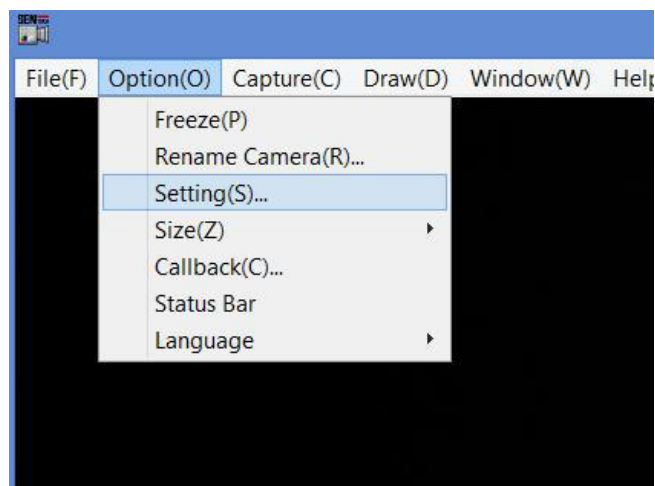

Figure 34 StCamsWare GUI
33. At StCamsWare, Go to Option and Select Setting as below Figure 34.